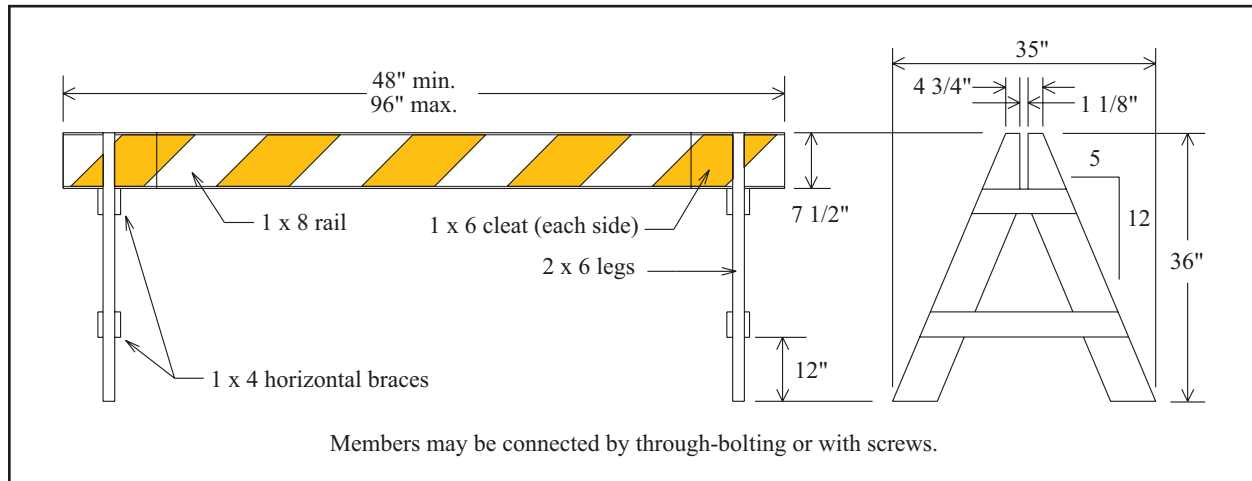

Figure C-2. Generic wooden A-frame Type-I Barricade
- ❖ Wood, two 2 x 6 A-frames with 1x8 rail (Figure C-2). Wood shall be No. 2 SYP or equivalent.